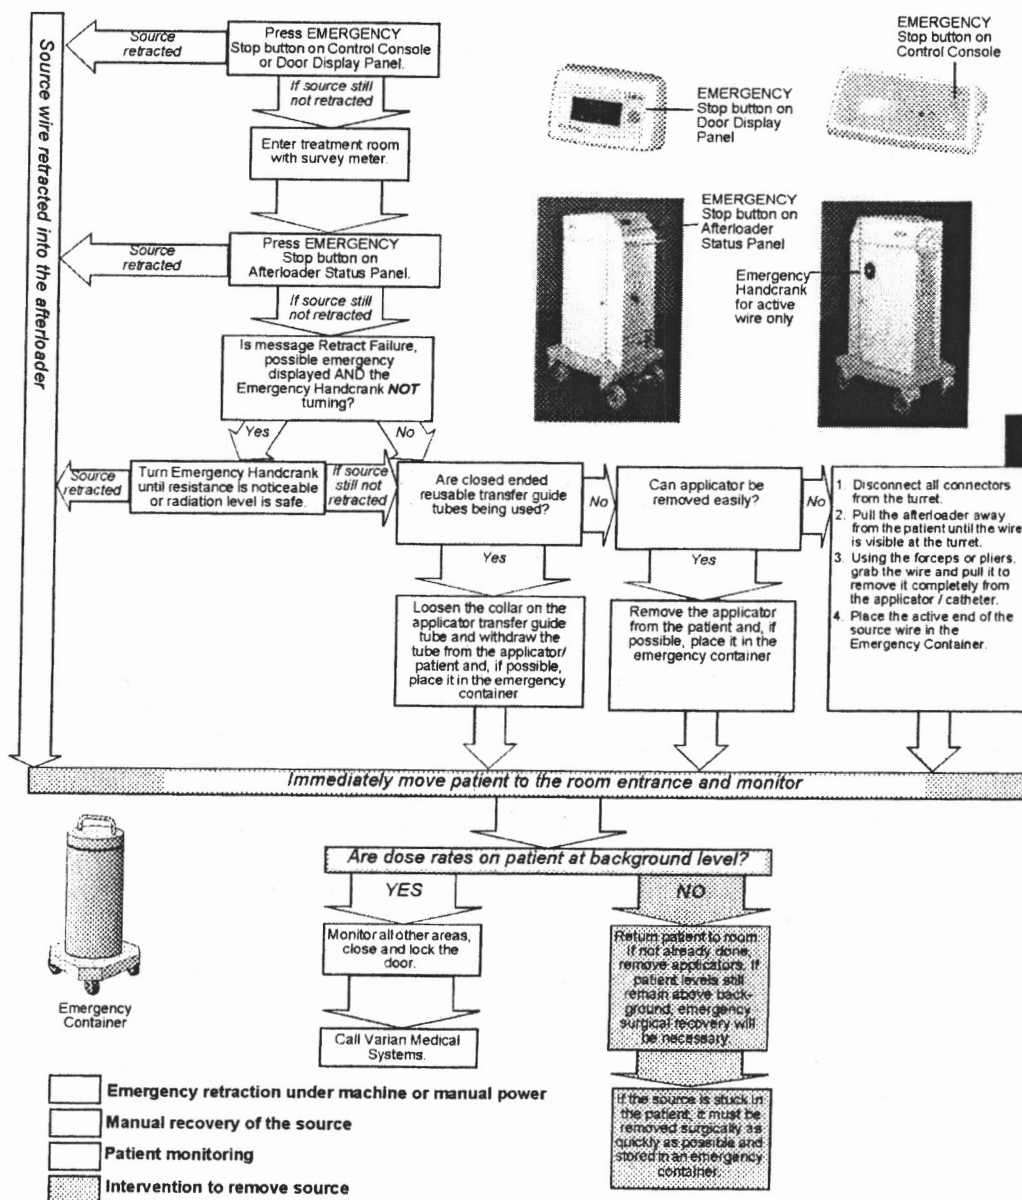

Figure 5-1 Emergency Response Procedures
If emergency retraction of the source is not possible, manual recovery of the source must be performed. Emergency retraction and manual recovery procedures are outlined in Figure 5-1 and described in detail in the sections below.
Note: The following sections describe Figure 5-1 “Emergency Response Procedures” in detail, beginning with the first emergency procedure listed in the flowchart. Refer to the “Emergency Response Procedures (for posting)” section in Appendix D, “Safety Information and Tests” for a version of the procedures that you may post.
WARNING 5-8: When you press the **Stop** button, the source is retracted at maximum speed. Verify that the **Radiation Indicator** on the Control Console is off and the **No Radiation Present Indicator** is on. Confirm that radiation levels are at background level. If not, initiate the next step of the emergency response procedures as described in Figure 5-1.
2. Turn the handcrank in the direction of the arrow through at least 8 revolutions, or until the independent radiation monitor no longer detects radiation. If after at least 8 revolutions of the handcrank radiation is still detected by the room monitor or portable survey meter, follow the procedures in the "Perform Manual Recovery of the Source" section below. These procedures are also outlined in Figure 5-1.